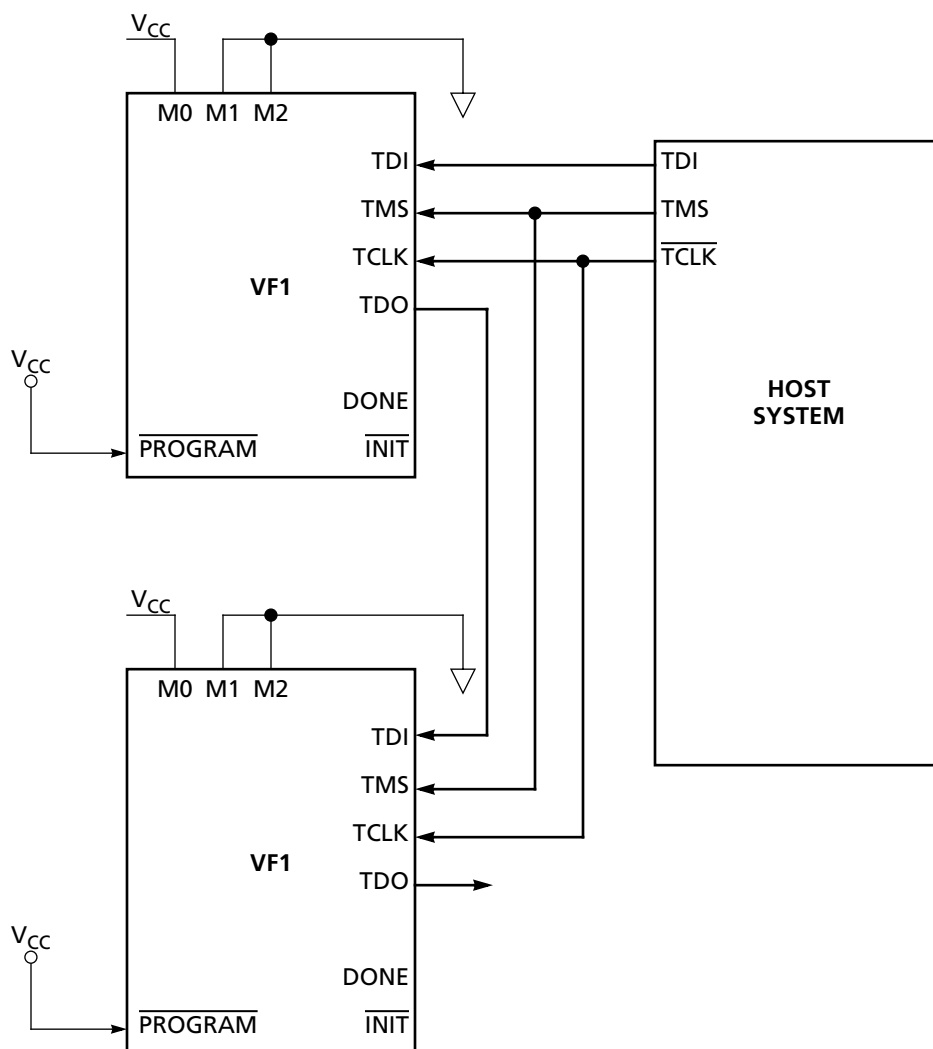
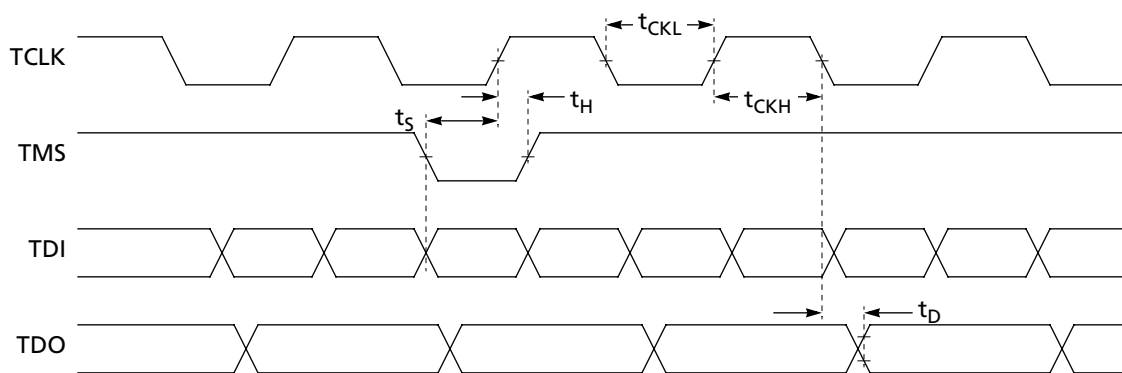

Figure 14. JTAG Mode
Figure 15. JTAG Mode Timing Relationships
In JTAG mode, VF1 FPGAs are configured via the JTAG pins TCLK, TMS, TDI, and TDO (Figure 14). Figure 15 and Table 9 show timing information. Three instructions in addition to the standard JTAG instructions support JTAG the configuration mode:
- ◆ **JTAG readback.** Configuration data is read via the JTAG port using JTAG commands (Figure 14). This method is available following either JTAG or non-JTAG configuration. JTAG readback can be accomplished using the Vantis programming software described earlier.